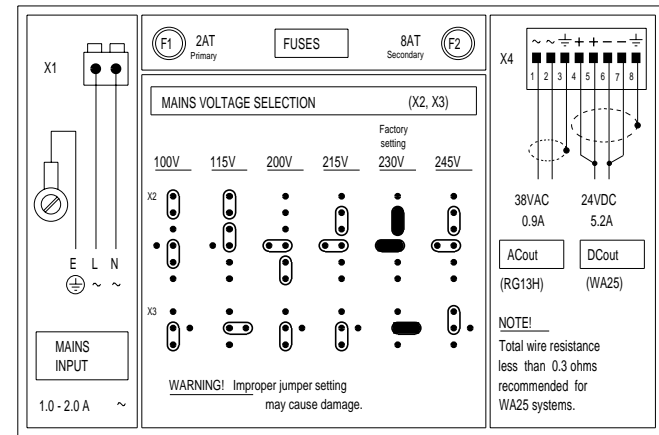

Figure 2. WHP25 wiring instructions (refer also to label inside the enclosure)
- 3 With the local mains voltage level other than 230 VAC, make proper reselection with the jumpers at X2 and X3 (under the protective cover). Observe the instructions and warnings in the instruction label inside the unit. Refer to Figure 2.